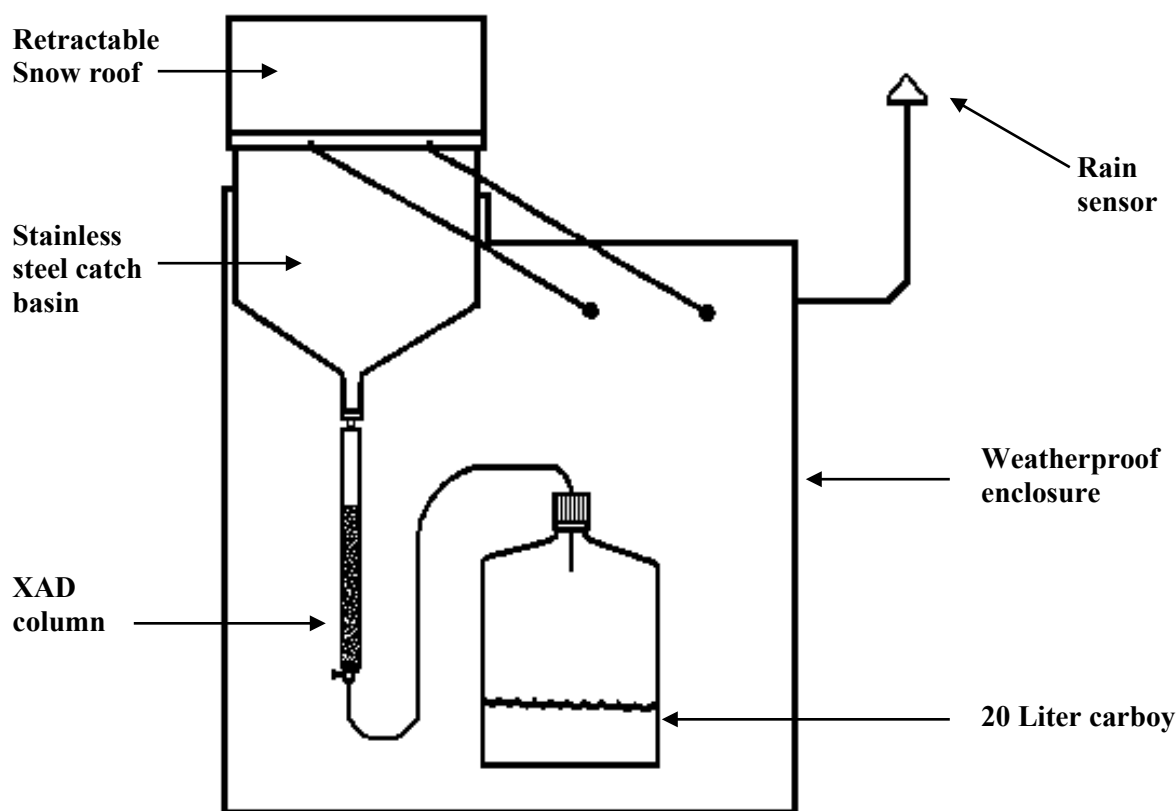

Figure 2. Schematic of the MIC Precipitation Collector.
A diagram of the MIC sampler and XAD column assembly is shown in Figure 2. General maintenance and trouble shooting are covered in section 1.5.
- 3) Rinse the collection surface with a minimum of 500mL of DI water (one wash bottle full) using kim wipes. Following this use methanol from squeeze bottle while wiping with the piece of precleaned glass fiber filter sent with the monthly supplies. This step removes adhering particles from the collection surface. Allow rinsings to pass through the column until the water level is halfway between the top of the resin bed and the top of the column (see Figure 2). If the temperature is so cold that water freezes on contact with the funnel, simply wipe off the collection surface with a dry piece of filter and go to Step 4.